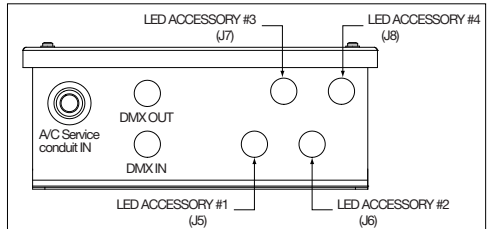

FIGURE 2
2. Locate the incoming DMX communication cable (see FIGURE 2). This cable will be attached to terminal block J3 on the PCB. Trim excess cable leaving no more than four (4) inches protruding from the conduit.
2. Install the power, communication, and LED accessory conduit fittings as desired to the enclosure (see FIGURE 2).
Note: The left most conduit fitting hole must be used for installation of power to the controller. The LED accessory and communications conduit connections should be placed as shown in FIGURE 2.
4. Install the ends of the conduit to the enclosure after routing the excess wire length into the enclosure at the appropriate locations (see FIGURE 2)
1. Locate the incoming cable for LED accessory #1 (see **FIGURE 2**). This cable will be attached to terminal block J5 on the PCB. Trim excess cable leaving no more than six (6) inches protruding from the conduit.
2. Carefully remove two (2) inches of insulation from the cable (a box cutter set to protrude less than 1/8” is good for this purpose). Cut from the desired removal location towards the cut end of the cable to prevent damaging the internal wires.